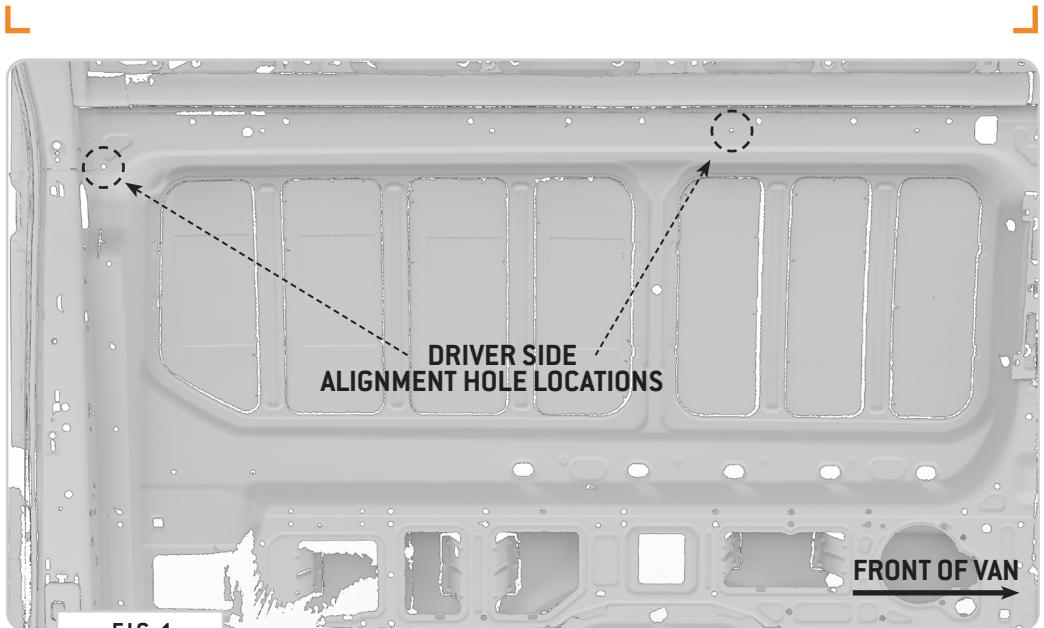

FIG 1
1.1 Driver Side Alignment Locations: See FIG 1 for alignment hole locations for **Driver Side Bracket** installation.
NOTE - This install requires the removal of any interior panels that span the locations shown in **FIG 1 and 2**.